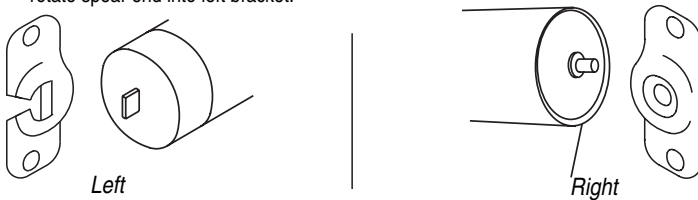

Figure 2
- ① Place operator end onto its bracket.
- ② For bead chain, place spring-loaded pin into bracket, carefully depress pin by pushing the shade roller toward left bracket, slip notches on operator end into right bracket, then press down to lock in place. Be sure chain loops through two endcap slots closest to the wall (see Fig. 2). For cranks, place operator end first, then slide notched pin end into slot. For spring roller, place right (pin) end into bracket, then rotate spear end into left bracket.